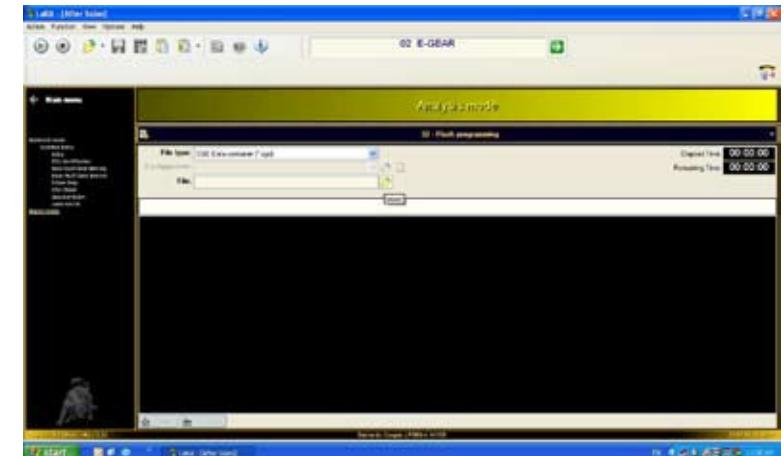

Fig.119
5. Select the type of file (**Fig.119**).